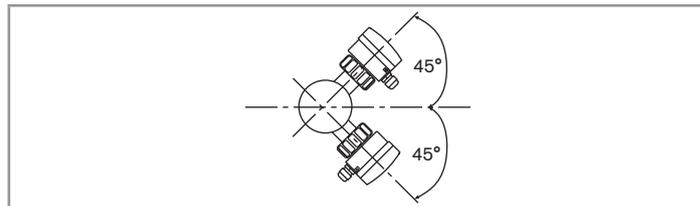

Fig. 8 : Mounting angle on the pipe
- We recommend to install the device at a 45° angle to the horizontal centre of the pipe to prevent deposits on the electrodes and false measurements due to air bubbles (see Fig. 8);